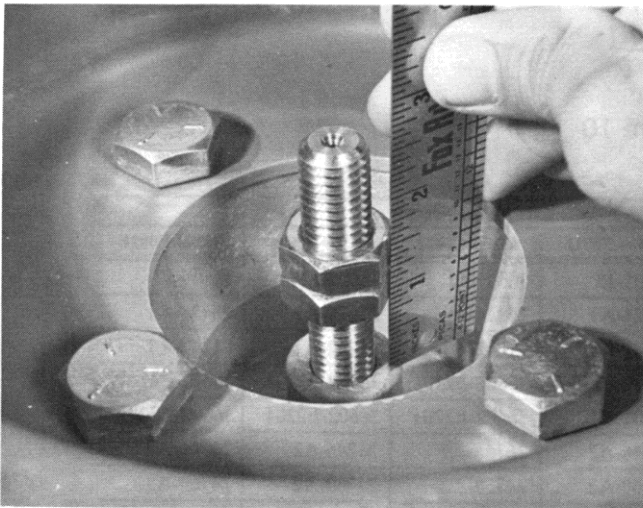

Figure 8
Push stem (22) down until it bottoms or until stiff resistance is felt. (This means that vent plug (17) is on seat and spring force is the only resistance felt.) Measure 7 / 8" (11/16" on 85380-E0012) from top of stem boss inside bonnet (9) to bottom of lower jam nut (25). (See figure 8). Tighten top jam nut (25) against bottom nut as tightly as possible and recheck measurement. Readjust if necessary.